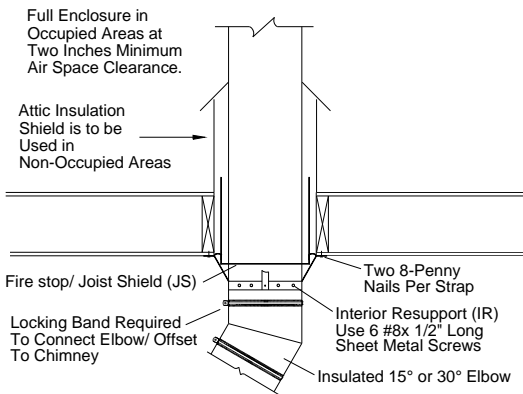

FIG. 9 - INTERIOR RESUPPORT (IR) USE WHEN THE INSTALLATION OF AN INTERIOR RESUPPORT BELOW A LOCKING BAND IS NOT POSSIBLE
The first method is used when an immediate section of chimney above the upper offset passes through a joist area. With the appropriate Fire Stop/Joist Shield (JS) in place, clamp the Interior Resupport support band around the chimney, using two 1/4" x 1/2" long carriage bolts and two 1/2" x 2" long carriage bolts and hex nuts. Attach support band to the pipe with six sheet metal screws as shown in Figure 9.
The Interior Resupport straps are then nailed to the framing joists with at least two 8 penny nails per strap. The maximum length of chimney which may be supported is 18 feet, which includes the offset lengths below, any vertical run to the resupport and the vertical run above the Interior Resupport. It does not include the length below the lower Elbow/Offset which is supported from below (Figure 9).